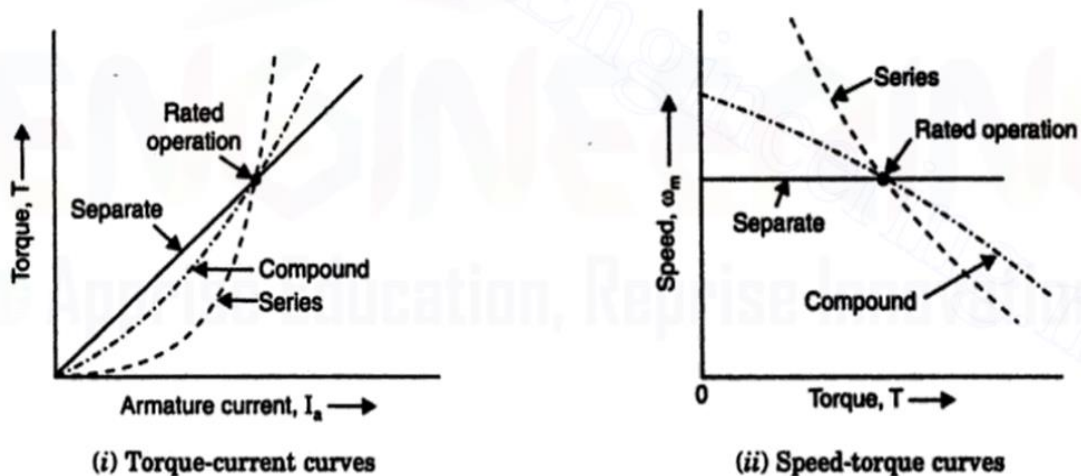

Fig. 5.5. Performance curves of D.C. motors.
- The torque-current ( $T/I_a$ ) and speed-torque ( $\omega_m/T$ ) characteristics of a separately excited motor for rated terminal voltage and full field are shown in Fig. 5.5.
The *torque-current* ( $T/I_a$ ) and *speed-torque* ( $\omega_m/T$ ) characteristics of a series motor at rated terminal voltage and full field are shown in Fig. 5.5.
The torque-current ( $T/I_a$ ) and speed-torque ( $\omega_m/T$ ) characteristics of a cumulative compound motor are shown in Fig. 5.5.